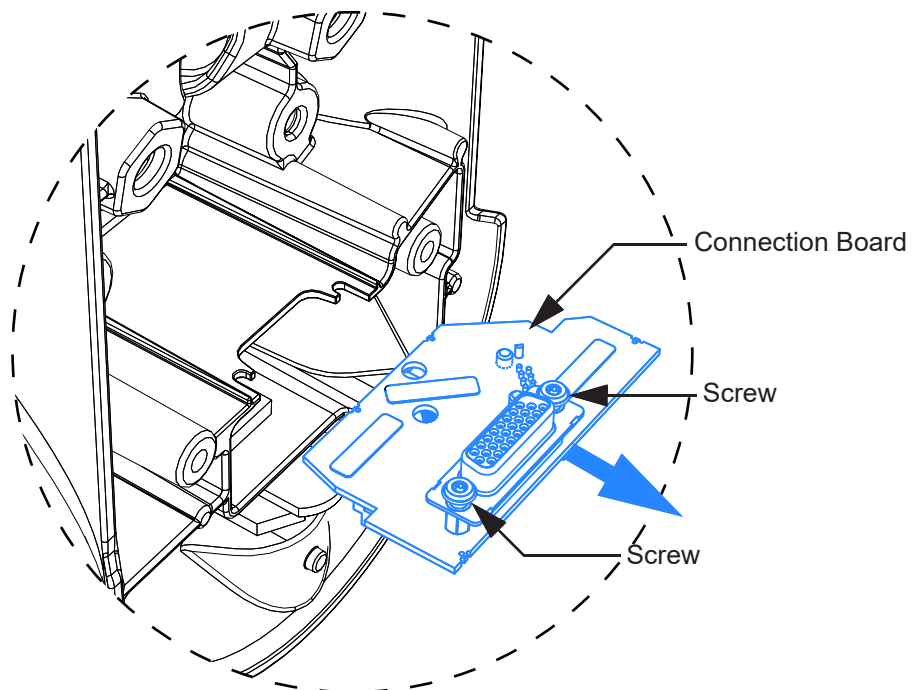

Figure 3-32 Slide out Connection Board
Step 5 Loosen the two screws that fix the connection board (one turn is enough) and slide out the connection board, see **Figure 3-32**.